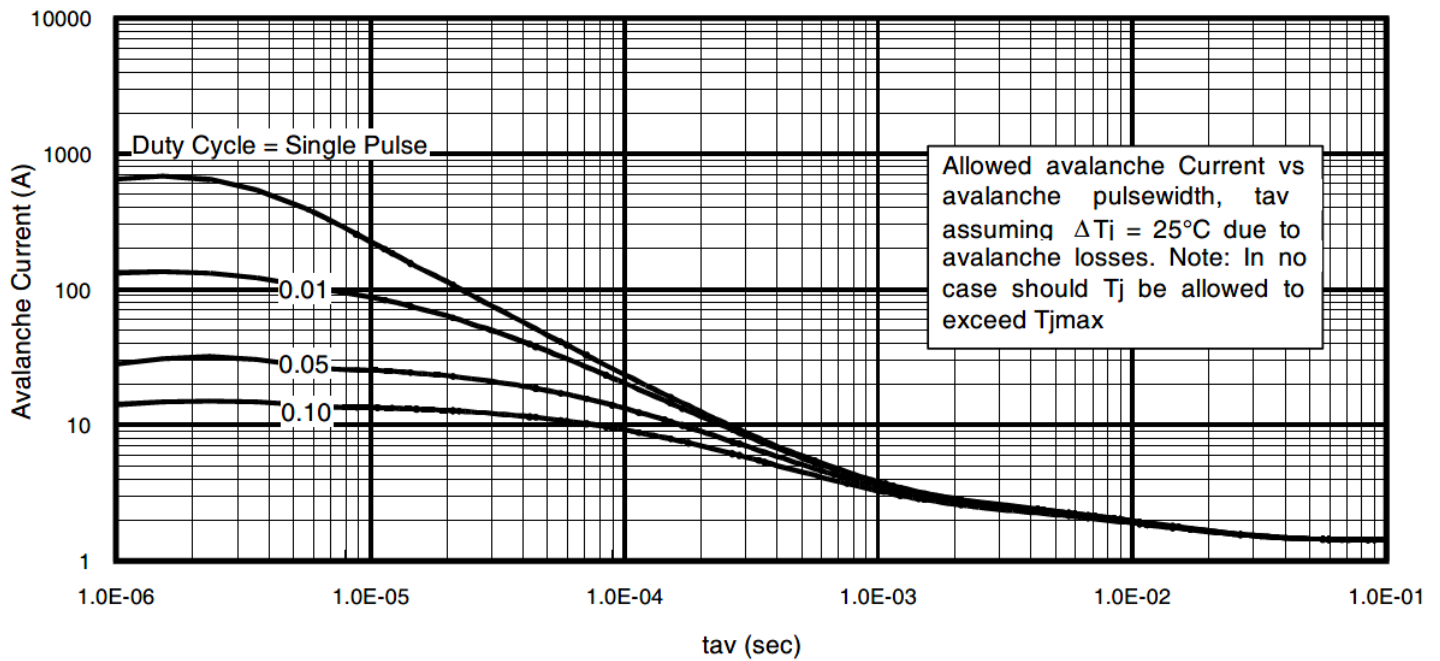

Fig. 15. Typical Avalanche Current Vs. Pulsewidth
Notes on Repetitive Avalanche Curves , Figures 15, 16:(For further info, see AN-1005 at www.irf.com)
7. ΔT = Allowable rise in junction temperature, not to exceed T_{jmax} (assumed as 25°C in Figure 15, 16).